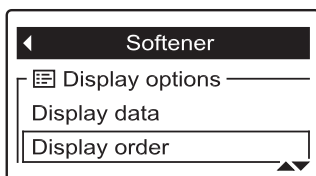

FIG. 115
3. Press the DOWN (▼) button to scroll through the menu options until **Display order** is highlighted in a box (See Figure 115).
9. To move another item, return to Step 5. When finished moving items, press the LEFT (◀) button. The display will go back to the device menu (Figure 115).